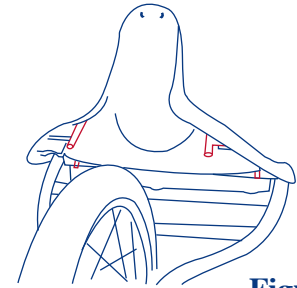
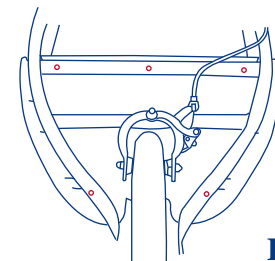
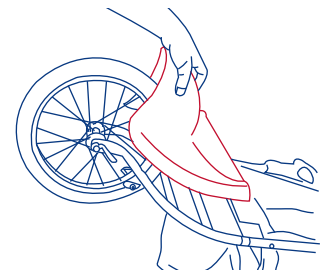
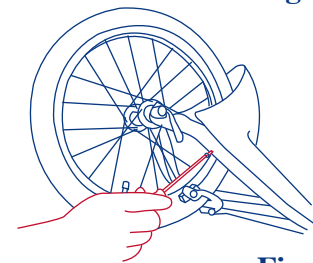

Figure 7a.
Figure 7b.
Figure 7c.
Figure 7d.
- The front fender is secured to the frame by the 5 screws provided. Examine the bottom of the front fender. You will notice four 1/4 inch diameter plastic tubes protruding from the bottom. See figure 7a. These tubes must be lined up with the holes in the front frame assembly. See figure 7b. Line up the front fender and press onto the front frame assembly. See figure 7c. Insert the 5 screws through the underside of the front frame assembly into the front fender's plastic tubes. Tighten the screws only until snug. See figure 7d. Do Not over-tighten.